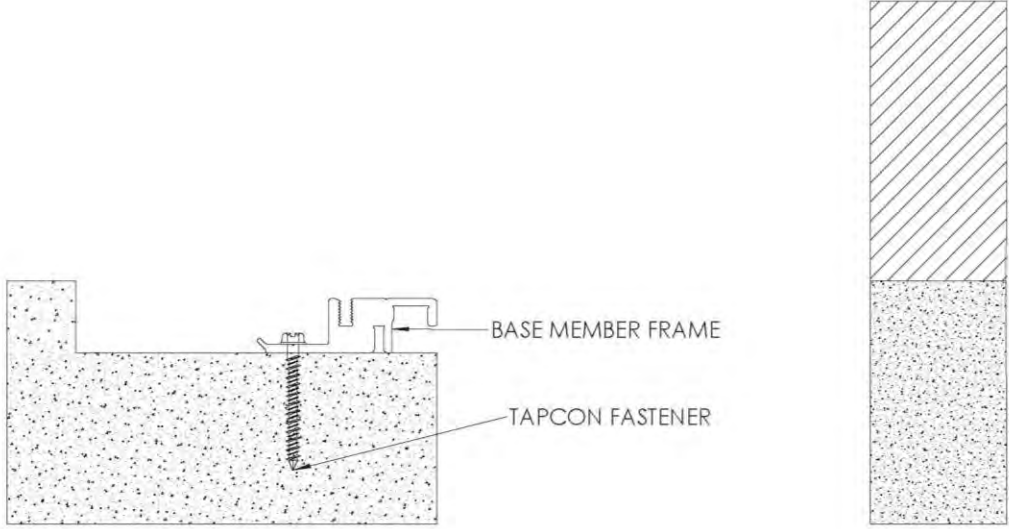

FIGURE 9
- 2. Position base member frame in blockout per shop drawings. Using the frame as a template, mark and drill 5/32” holes for Tapcon fasteners. Install base member frame to blockout opening with fasteners, making sure not to over tighten. **See Figure 9**